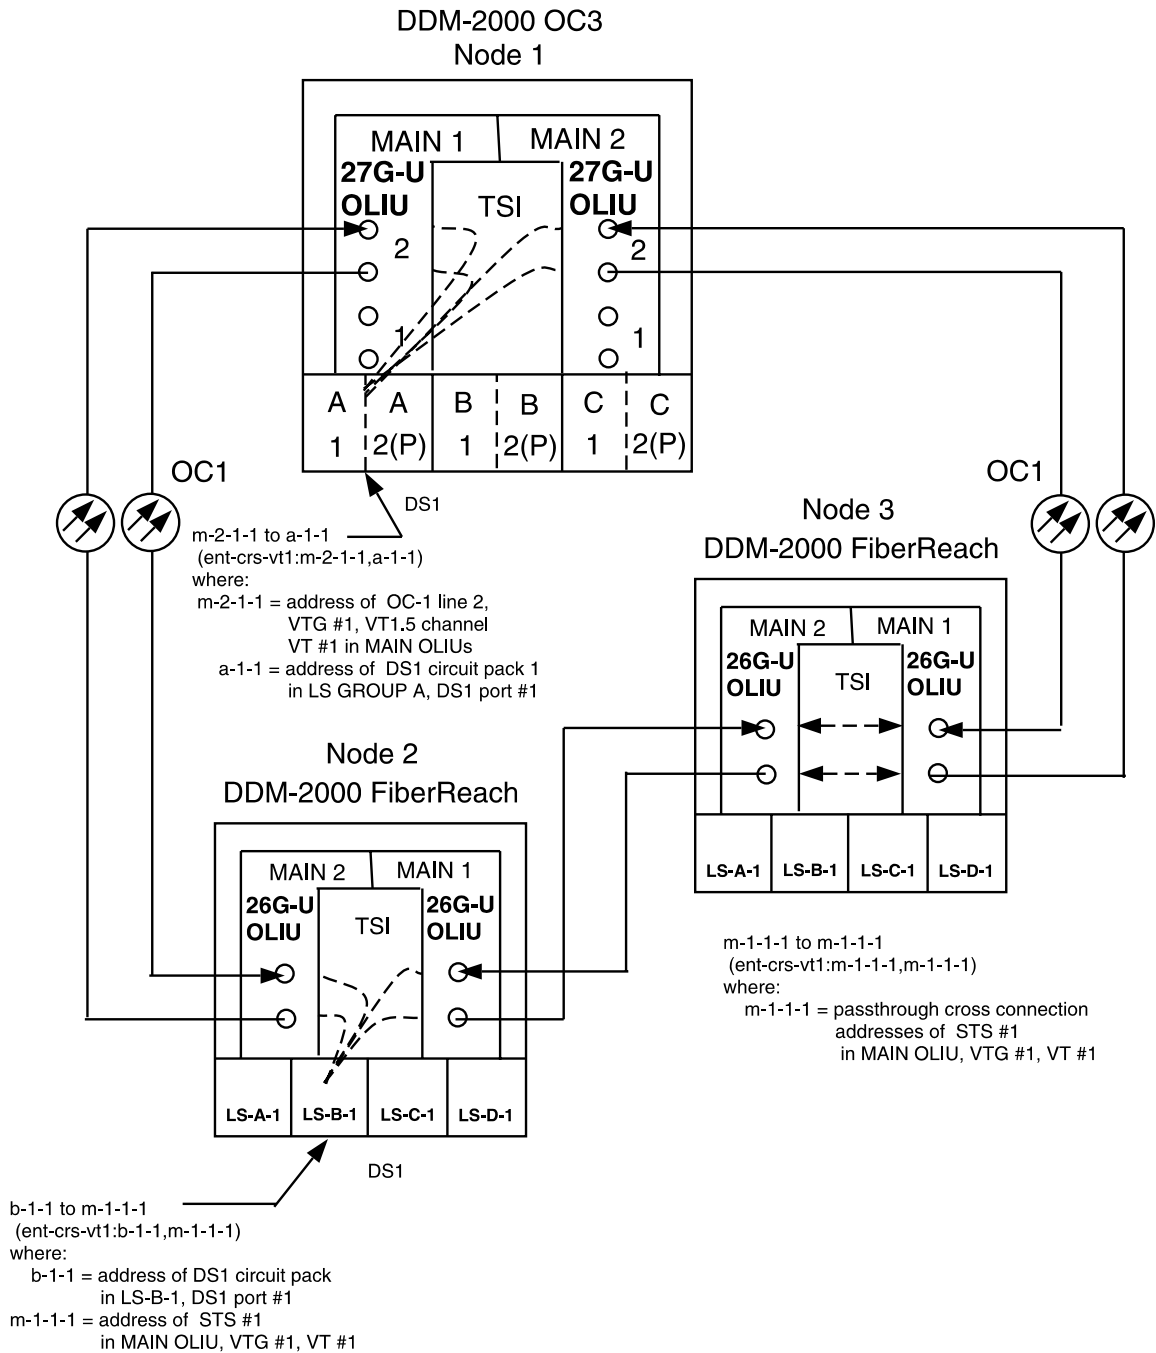
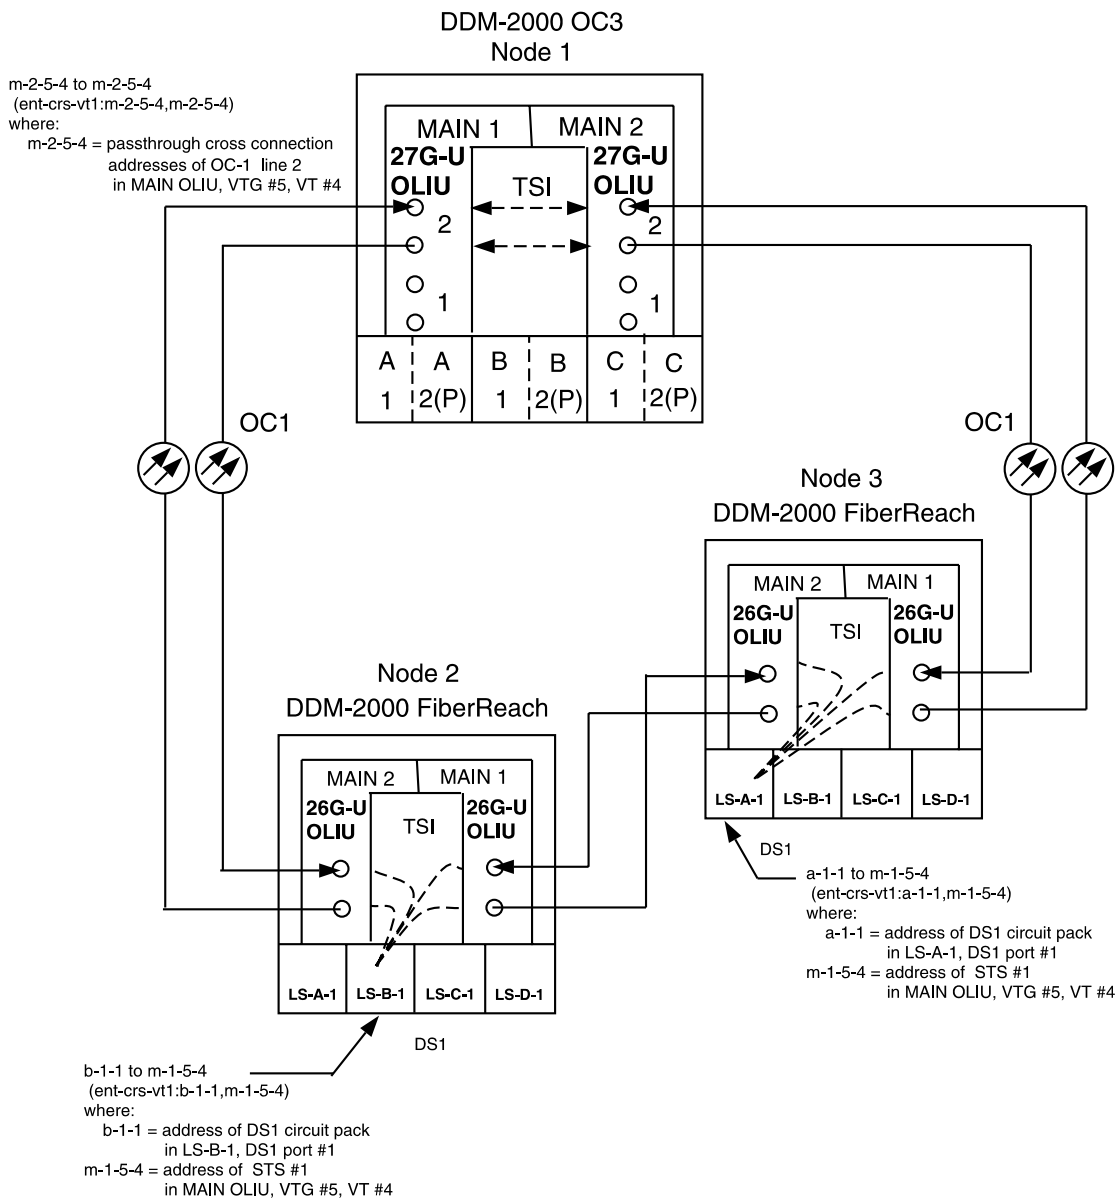

Figure 5 – Example of Stand Alone OC-3/OC-1 Cross-connections
Figure 6 – Example of Stand Alone OC-3/OC-1 Cross-connections
Cross-connections consist of drop and pass-through connections. For example in Figure 5, drop connections are made at Nodes 1 and 2. Pass-through cross-connections are made at Node 3. In Figure 6, pass-through cross-connections are made at Node 1.
At all nonterminating nodes in the network, use the `ent-crs-vt1:` command to provision pass-through connections. [For example, in Figure 5, node 3, to make the DS1 pass-through cross-connection for channel m-1-1-1, use the `ent-crs-vt1:m-1-1-1,m-1-1-1:cct=twoway` command.
9. At the terminating (drop) nodes of the circuit being established, use the `ent-crs-vt1:` command to make the terminating cross-connections. For example in Figure 5, at Node 1, if DS1 port #1, circuit pack #1 in **FUNCTION UNITS** group **A** is cross-connected to VT1.5 channel #1, VTG #1, STS #1, OC1 line 2, then the command `ent-crs-vt1:a-1-1,m-2-1-1:cct=twoway` would be used to make the cross-connection. At Node 2 in Figure 5, the command `ent-crs-vt1:m-1-1-1,a-1-1:cct=twoway` would be used to make the cross-connection.